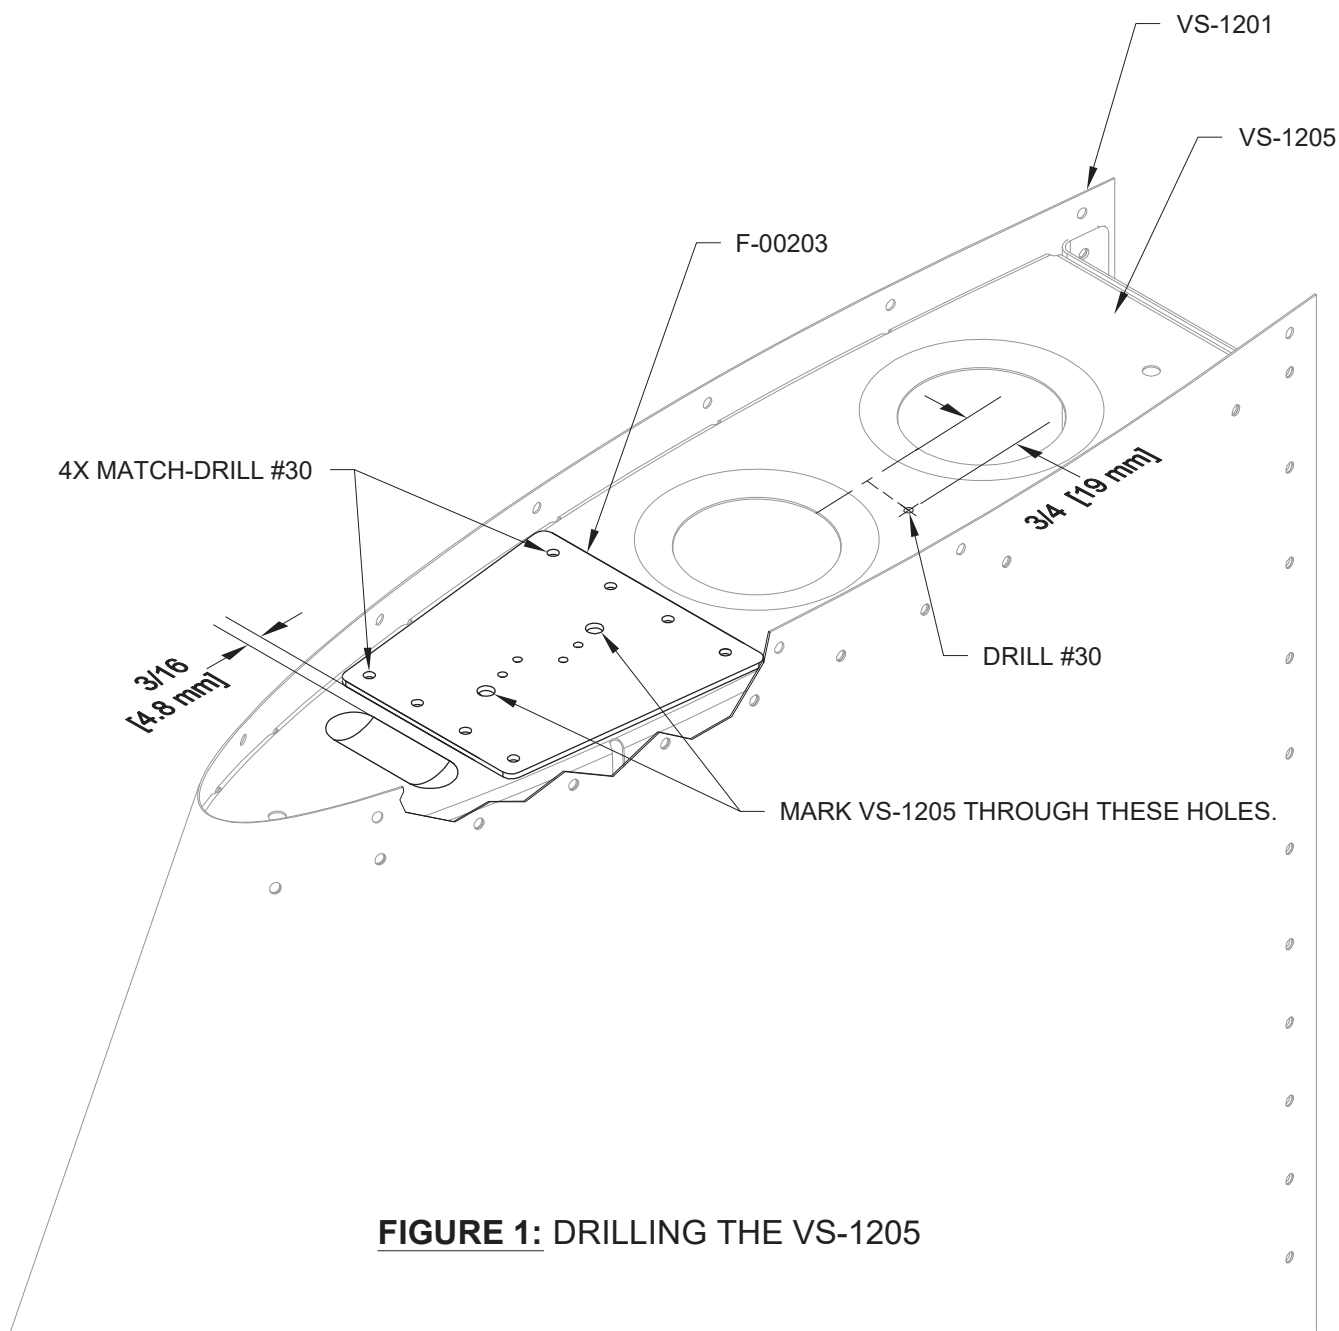

FIGURE 1: DRILLING THE VS-1205
Step 5: Drill #30 a hole near the aft two lightening holes in the VS-1205 as shown in Figure 1.